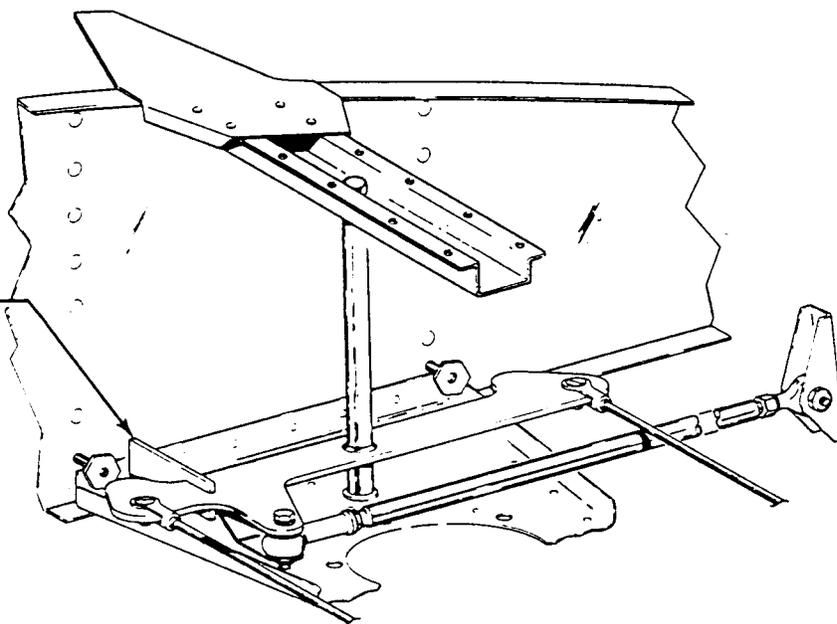

Figure 27-5. Bellcrank Rigging Tool
**RIGGING AND ADJUSTMENT OF AILERON CONTROLS** (figures 27-5 and 27-6)
- b. Attach a bellcrank rigging tool, as shown in figure 27-5, between forward arm of each bellcrank and adjacent rib. (This tool can be fabricated from dimensions given in chapter 95.) Slotted end of tool fits on arm forward of and adjacent to primary control cable end. The other end of tool is positioned so that side of tool contacts aft side of bellcrank stop. bellcrank must be moved to allow a snug fit of tool between bellcrank arm and rib. To do so, it may be necessary to loosen a primary control cable or balance cable. Neutral position of bellcranks is where forward and aft cable connection holes are an equal distance from adjacent outboard wing rib.